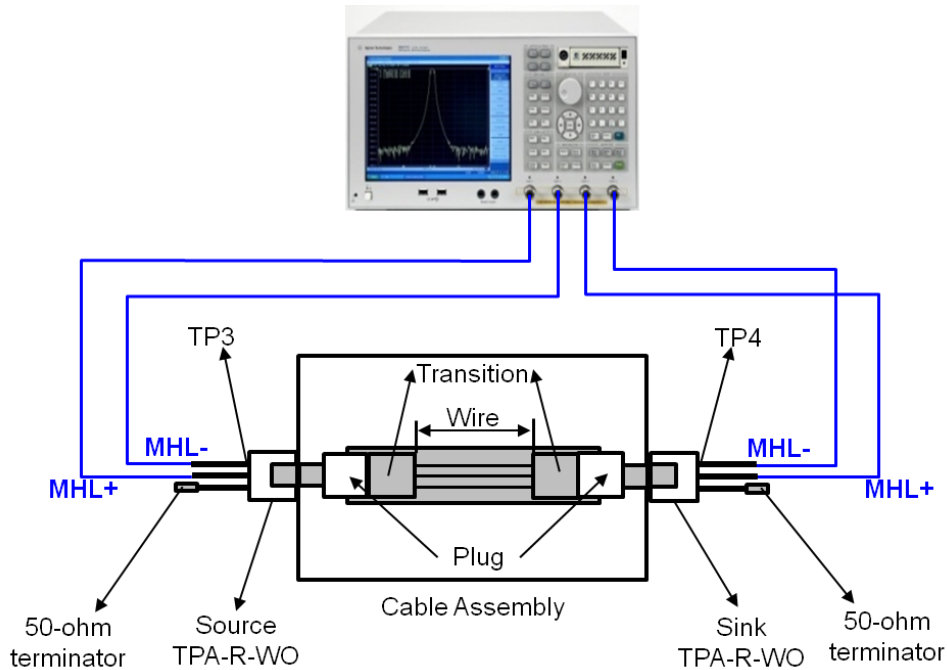

Figure 5-1. Differential Intra-Pair Skew Test Setup
1. Connect DUT (Figure 5-1).
1. Connect DUT (Figure 5-1)